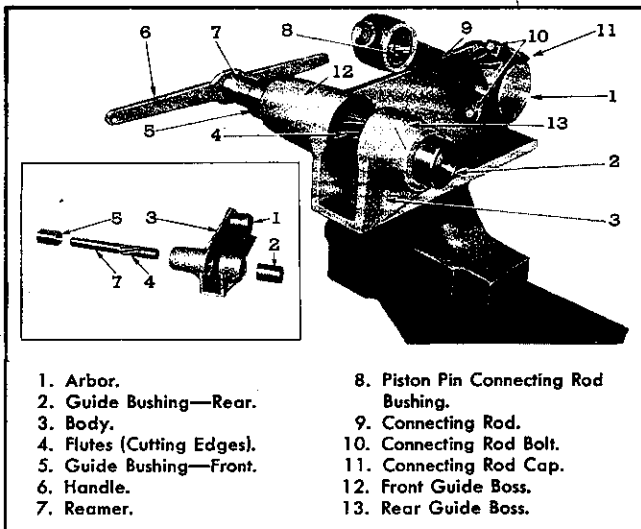
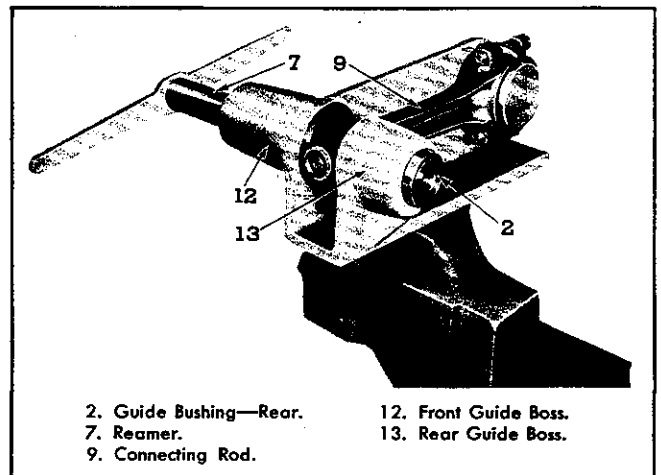

Fig. 7—Preparation for Reaming Piston Pin Bushings in Connecting Rod with Tool J-1686.
Fig. 8—Reaming Piston Pin Bushings in Connecting Rod with Tool J-1686.
**Reaming Piston Pin Bushings in Connecting Rod**—Since the inside diameter of replacement bushings are smaller than the final finished diameter, the bushing must be reamed after pressing into place. This operation is accomplished with Tool J-1686, as illustrated in Figs. 7 and 8, respectively. Figure 7 illustrates how the connecting rod is placed on the fixture preparatory to reaming. Figure 8 shows the actual reaming operation.